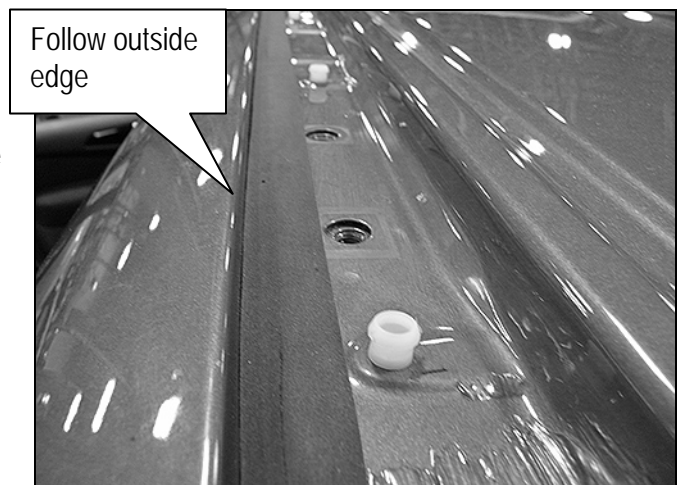

Figure 9
- c. While peeling only enough of the adhesive backing to allow several inches at a time to be attached apply the strip along the outside edge of the molding recess as shown in Figure 9.